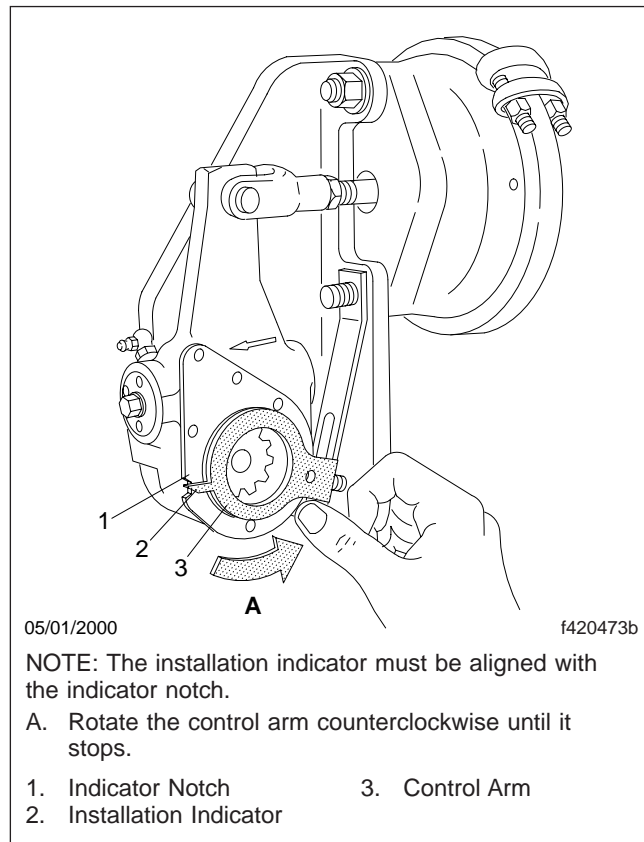

Fig. 3, Aligning the Control Arm
7. Rotate the control arm away from the adjusting hexnut toward the brake chamber until it comes to a definite internal stop. Make sure the installation indicator is in the center of the indicator notch on the slack adjuster. See Fig. 3.